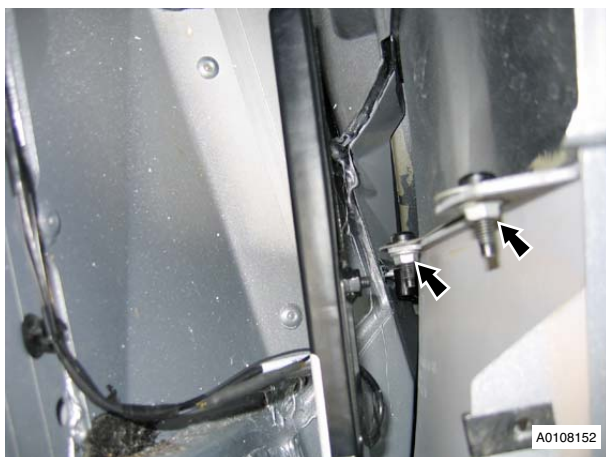

Figure 2
6. Remove nut and bolts (x2), sill to rear body (see Figure 2).